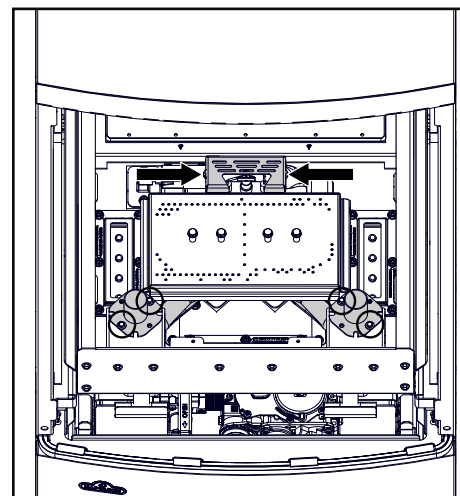

Fig. 2
- ☐ 4. Remove 4 screws holding the log venturis, and 2 screws securing the pilot cap (Fig. 2). Save for reinstall.